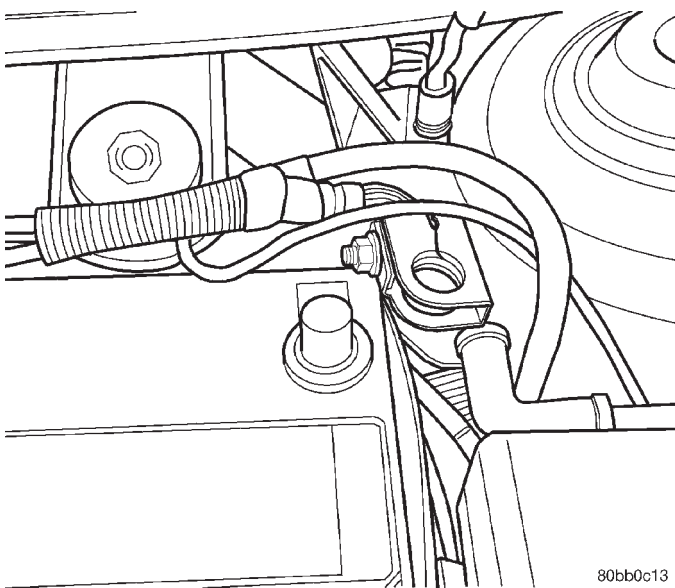

Fig. 1 Battery Cable
- (1) Disconnect battery negative cable (Fig. 1).
- (14) Lower vehicle.
- (15) Connect battery cable (Fig. 1).